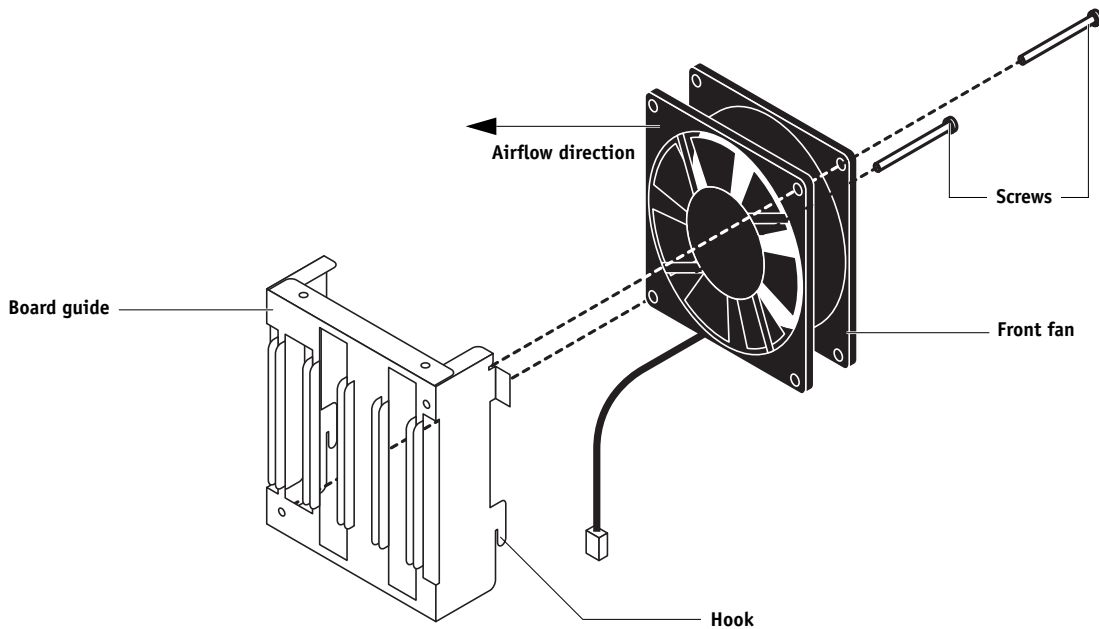

FIGURE 4-24 Replacing the front fan
6. Unhook and remove the board guide (with front fan attached) from the chassis (see Figure 4-24 on page 4-42).